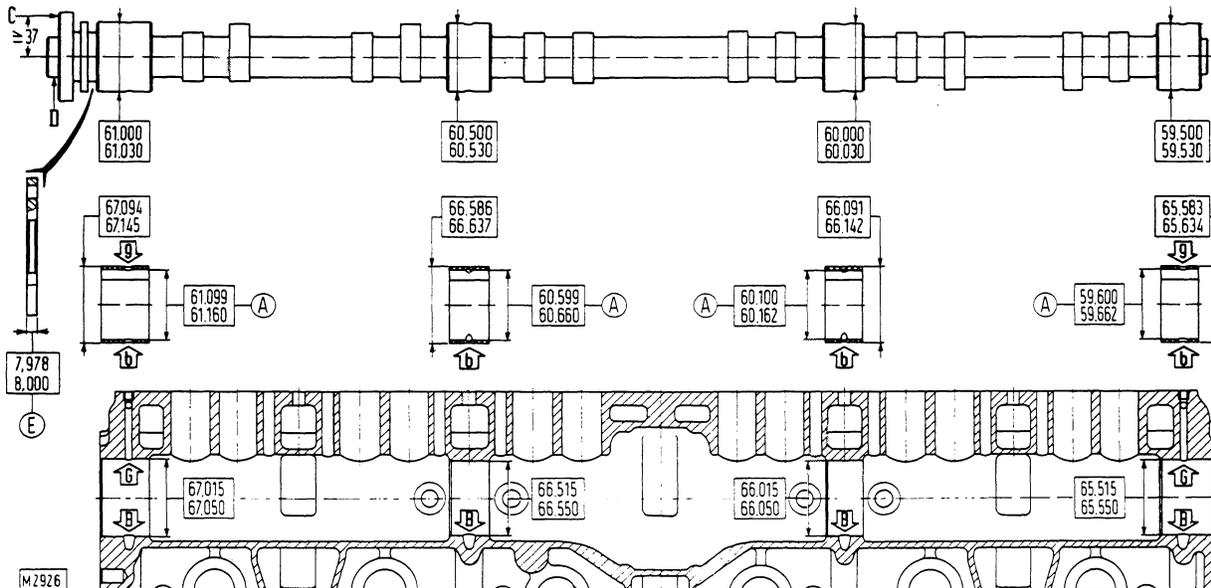

Fig. 19 - Camshaft, bearing and housing dimensions.
Measure clearance between camshaft bearings and journals using a suitable inside micrometer. For specified dimensions, see fig. 19 and section 11. Check that cams are smooth and free from scratches. Minor scratches can sometimes be remedied using a very fine abrasive stone; otherwise, scrap and replace camshaft.
- Place the camshaft with two end journals over vee blocks and rest the stylus of a dial gauge on the flange face at approximately 37 mm or 1.5 in from the centerline (**C**, fig. 19).
Inspect bearings for signs of scratching, flaking, rust or overheating, replacing as necessary. Check that oil holes are not obstructed. Check bearing dimensions (see fig. 19).
- Position bearings so that retaining screws (**4**, fig. 18) are lined up with the associated passage holes, and that oil holes (**b** and **g**, fig. 19) line up with the corresponding oil supply holes (**B** and **G**) in the cylinder block.